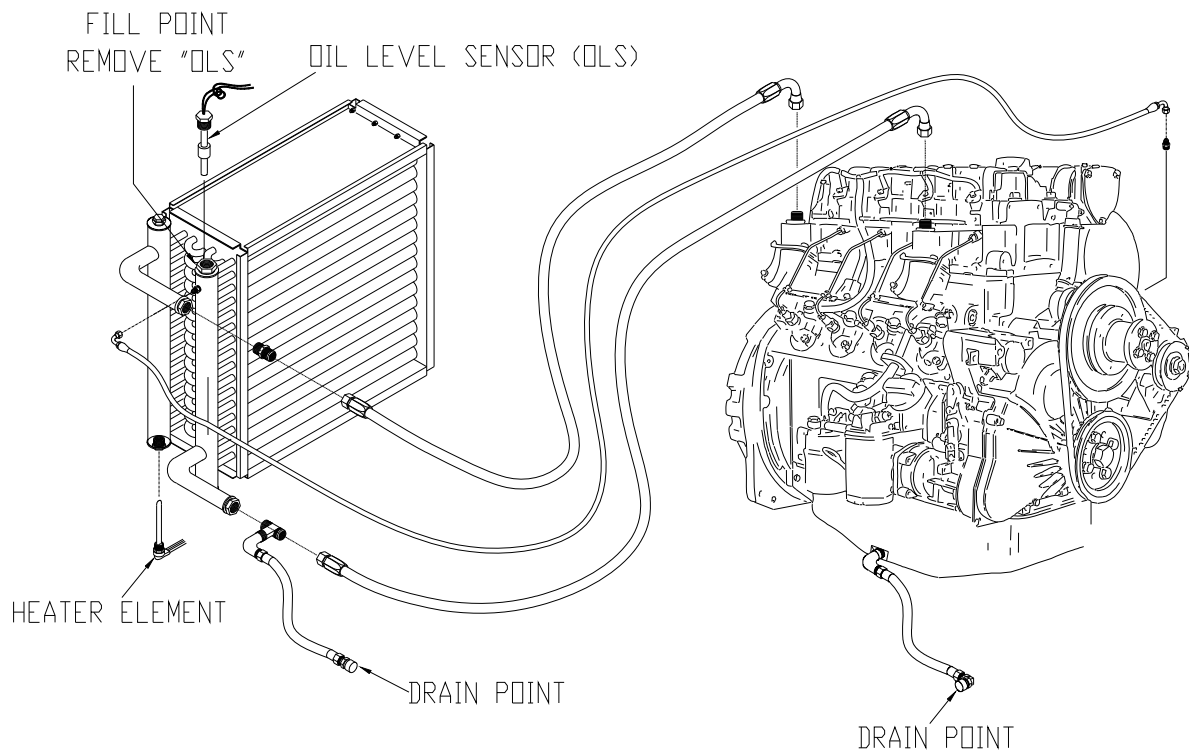

Figure 2. Oil Drain And Fill Points
The Deutz oil-cooled engine in the Model 5050 Aircraft Heater Unit circulates crankcase oil through the oil heat exchanger thus providing cooling and lubrication for the engine. The engine oil also serves as an additional heat source for discharge airflow delivery. (See Figure 2)
OIL MAY BE ADDED EITHER AT THE ENGINE CRANKCASE LOCATION(S) OR BY REMOVING THE OIL FILL PORT PLUG ON THE HEAT EXCHANGER (SEE FIGURE 2). THE HEAT EXCHANGER IS UNDER HIGH PRESSURE. ENSURE THE FILL PORT PLUG IS PROPERLY TIGHTENED BEFORE STARTING THE ENGINE.
- (4) When oil needs changing, drain it from both the coolant heat exchanger and the engine crankcase. Refer to the maintenance table for recommended oil change intervals. Refer to Chapter 1, Section 3 Technical Specifications for the required amount of oil. When changing the oil, proceed as follows.
- (b) Drain oil from oil heat exchanger and engine crankcase (See Figure 2.).